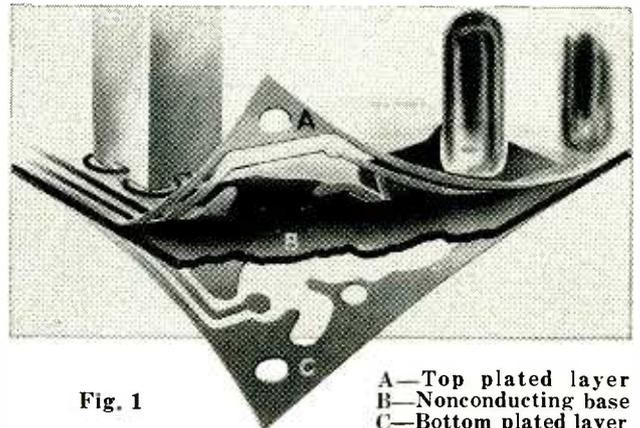

Fig. 1
**P**LACIR is the name of a new plated-circuit process used by Motorola in the construction of the 5-tube a.c.-d.c. broadcast receiver models using the HS-289 chassis. In these sets, the usual metal chassis has been replaced by a stamped plastic base appliquéd on both sides with a thin layer of copper in a pattern which duplicates the wiring layout of the receiver. Each line of the pattern is a conductor which replaces the hookup wire or bus bar used in standard wiring techniques. The metal plating extends through all holes in the chassis to connect circuits on the front with those on the rear. A cross-section drawing of one corner of the chassis is shown in Fig. 1 and the underside of the chassis is shown in Photo A.